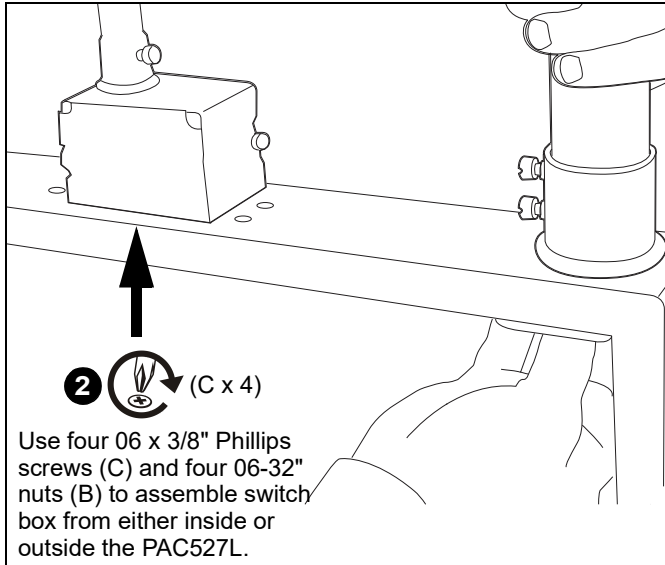

Figure 7
2. Loosely attach required conduit and conduit connectors, switch boxes, outlets, etc (not included) to PAC527L to enable fitting into the wall opening. (See Figure 7)